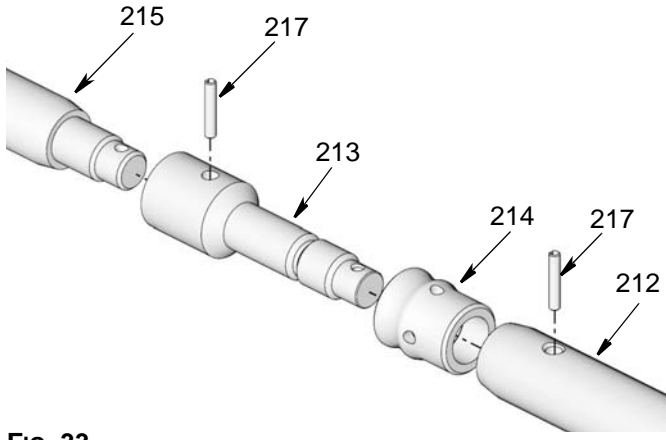

FIG. 33
21. Use a punch and hammer to tap out pins (217) holding the rod sections together (FIG. 33). Use your hands to unscrew shovel rod (215) and spacer rod (212) from piston (213).